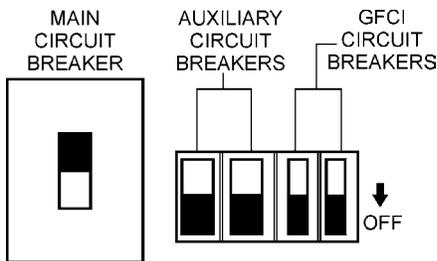

Figure 34. Main, Aux. and GFCI Circuit Breakers (OFF)
1. Place the **main, G.F.C.I., and aux.** circuit breakers (Figure 34) in the **OFF** position prior to starting the engine.